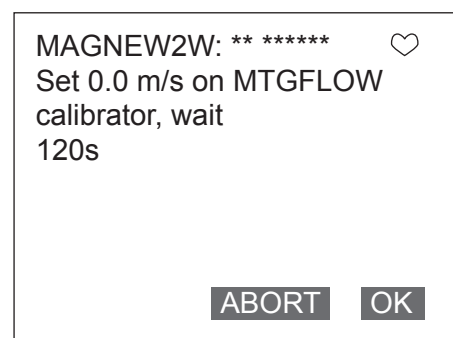

Figure 7-49
4. Figure 7-49 will then appear. Set the connected calibrator value to 0.0 m/s and then press F4 (OK).